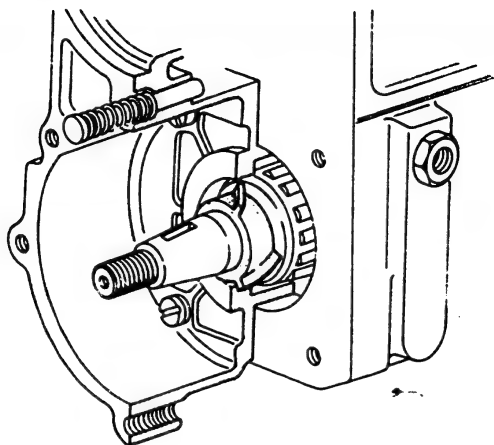

Fig. 47 Attaching the impeller
1. After mounting the governor housing, attach the impeller to the camshaft with the flat side of the blades facing the governor. (Fig. 47)